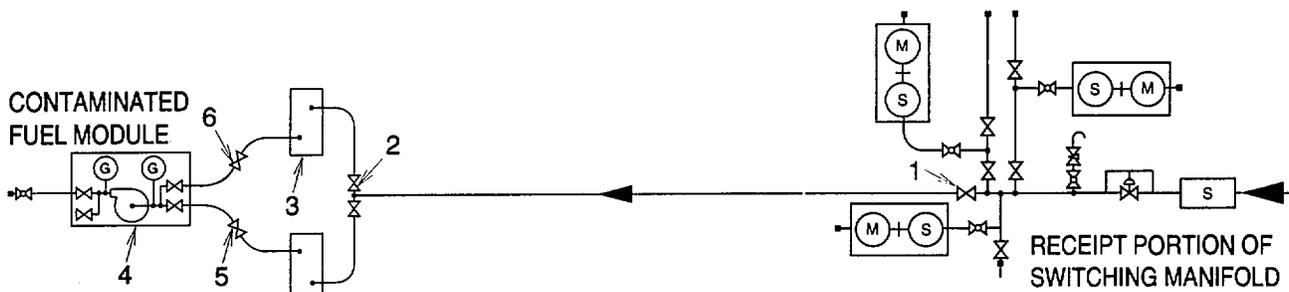

Figure 2-23. Typical 50,000 GAL Fabric Tank Operation
(3) The tanks contents are drawn down by suction from the hoseline pumps (5) after opening the appropriate valves. For example, valves (6), (7), and (8), along with valves (9) in the discharge and downstream of (5) must be open to draw down tank (4) with the pump (5).
n. 50,000 Gallon Fabric Collapsible Tank Operation. (See figure 2-23.)